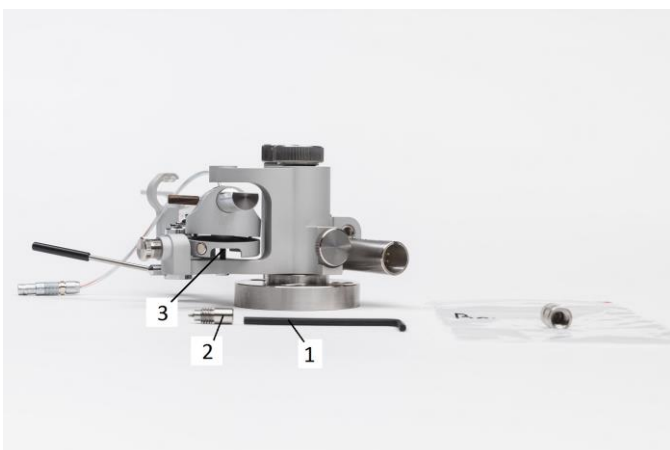

Figure 3
e) Set an arm tube [3] (Figure 3).